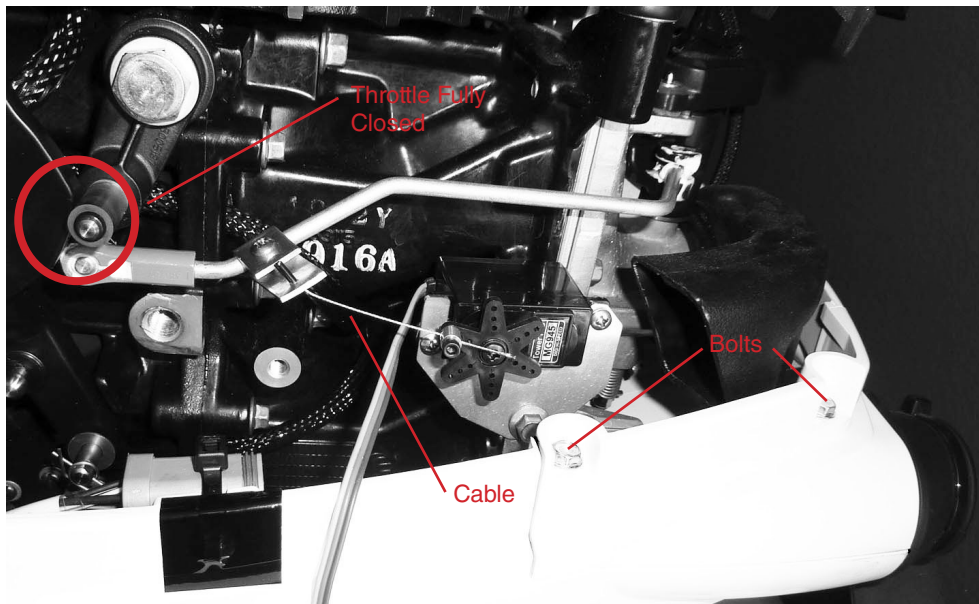

Figure 2 - Complete Installation
### Step 2: (See Figure 2)
### Step 4: (See Figure 2)
- Take up slack on cable. MAKE SURE throttle is closed (see Fig. 2). Tighten set screw in servo arm fitting with flat screwdriver.